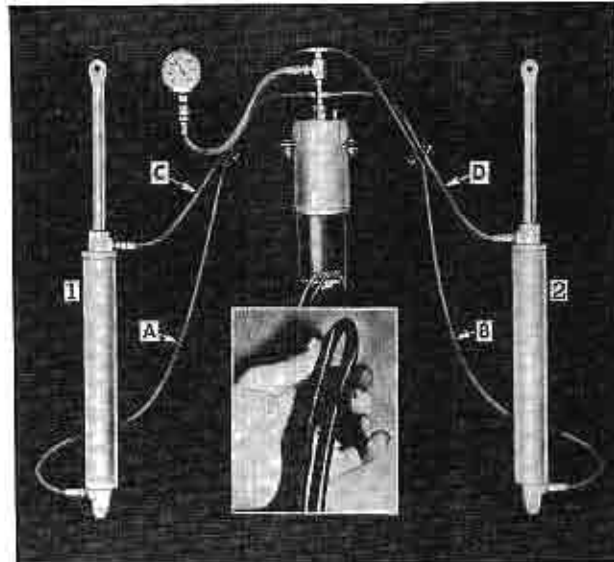

Fig. 3-96 Checking and Adjusting Hydraulic Pump Pressure
2. Install a standard pressure gage between the pump port and "T" of the hydraulic lines leading to the bottom of the cylinders, Fig. 3-96.
2. Kink tubing "A" and "B", as shown in Fig. 3-96, to shut off fluid flow to the bottom of each cylinder.